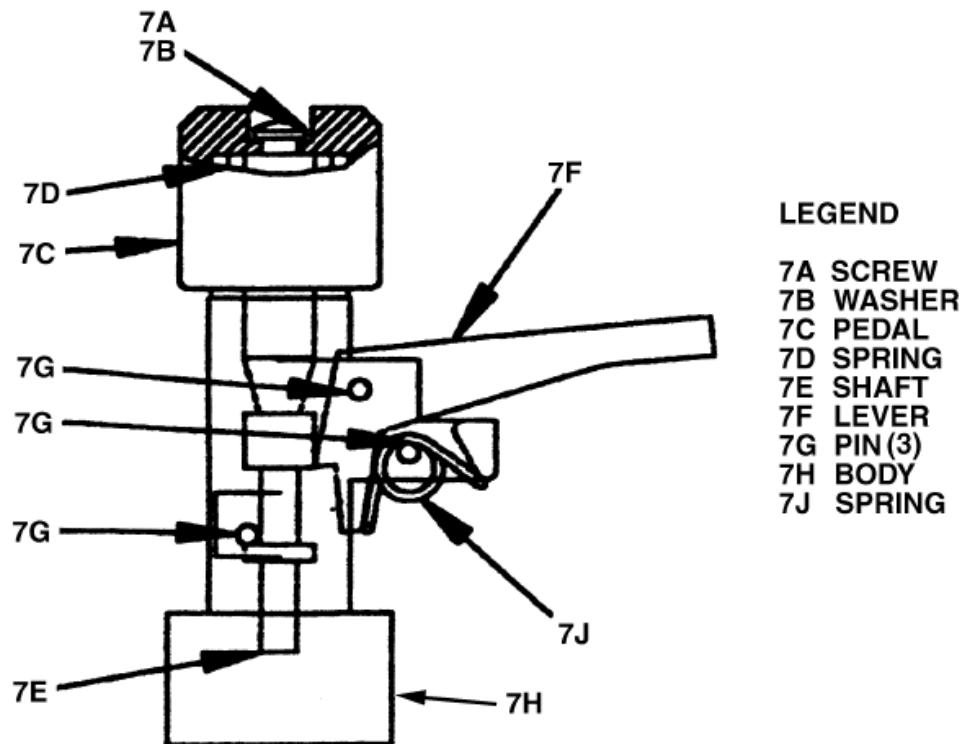

Figure 5. Mechanical Servo Assembly
10. Overhauling the Mechanical Servo Assembly (See Figure 5 and IPL Figure 1)